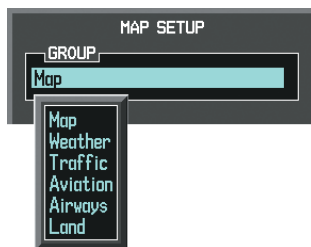

Figure 6-139 Navigation Map Page Setup Menu
- 4) Turn the small **FMS** Knob to select the 'Map' Group and press the **ENT** Key (Figure 6-139).